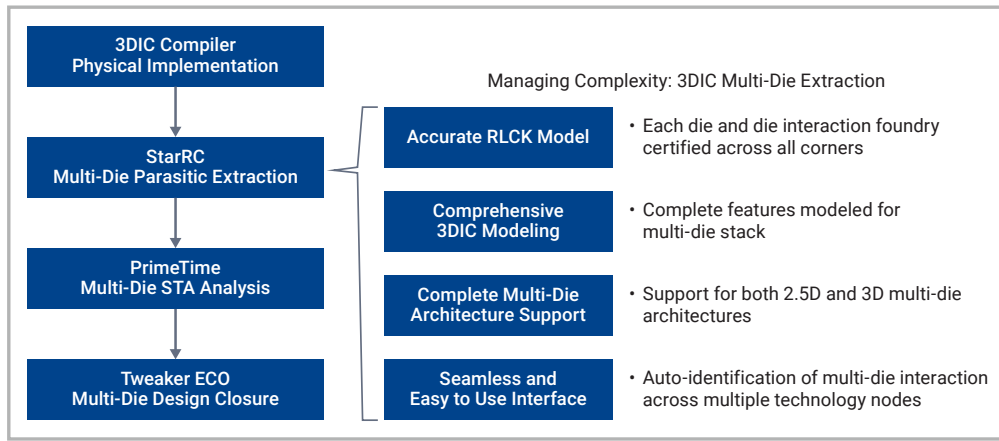

Figure 2: Synopsys multi-die timing signoff flow
With parasitics extracted for all dies and all parts of the package, STA can account for timing paths that cross dies as well as those internal to a single die. As shown in Figure 2, there are many additional capabilities in the Synopsys solution to provide timing results that match the final silicon. Synopsys StarRC uses a highly accurate RLCK model that includes resistance (R), inductance (L), capacitance (C), and mutual inductance (K) components, well beyond traditional R and C values. Other key features include: